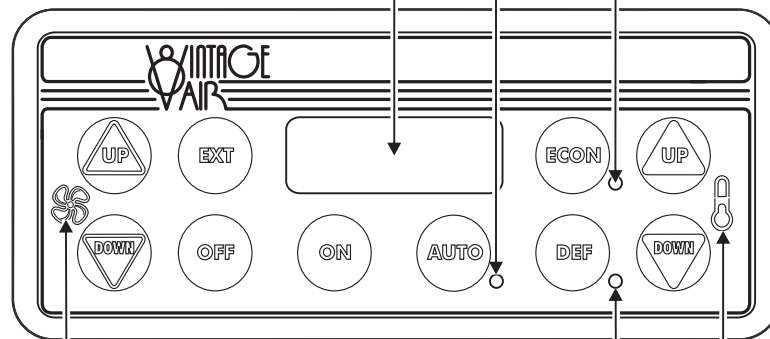

FIGURE 1
- 3 WIRE ELECTRIC FAN AS SHOWN IN FIGURE 1.